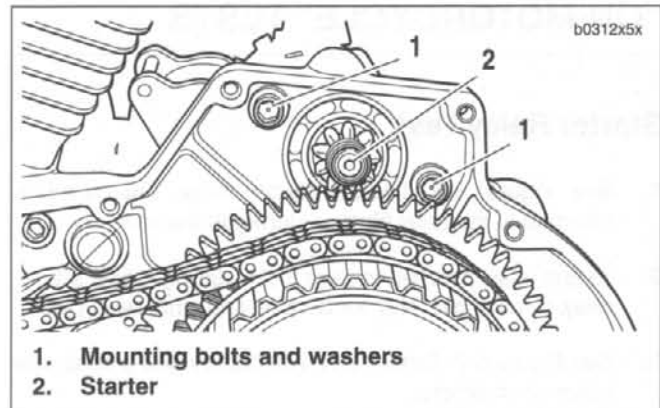

Figure 5-9. Starter Mounting
2. See Figure 5-9. Remove both starter mounting bolts and washers (1).